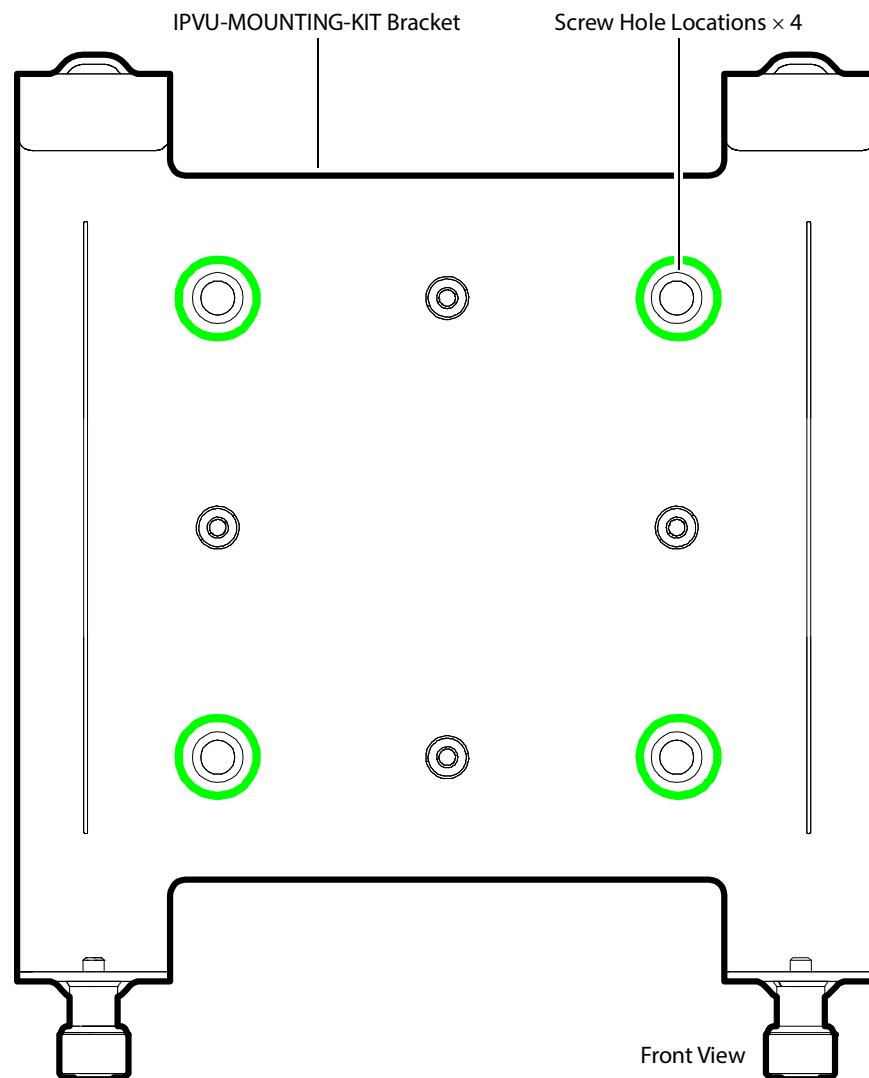

Fig. 3-5: Screw hole locations for wall mounting the IPVU-MOUNTING-KIT
- 1 Identify the screw hole locations on the IPVU-MOUNTING-KIT bracket. See Figure 3-5.